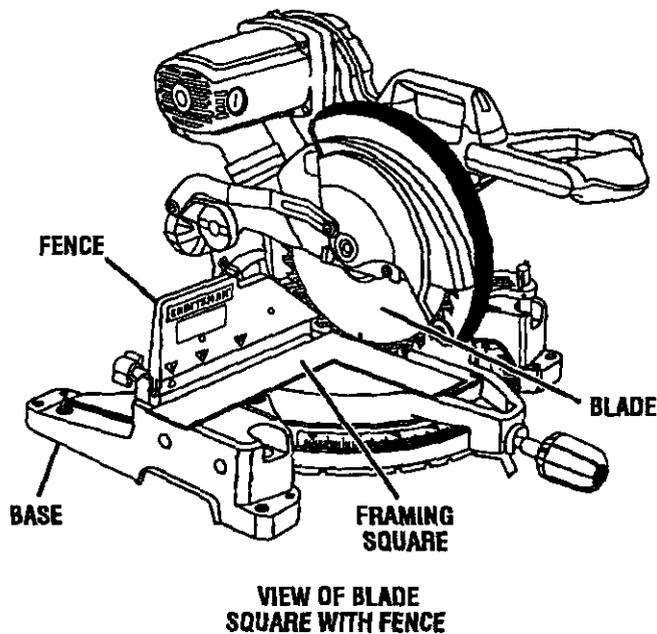

Fig. 25
See Figures 25 - 28.
- The edge of the square and the blade should be parallel as shown in figure 25.